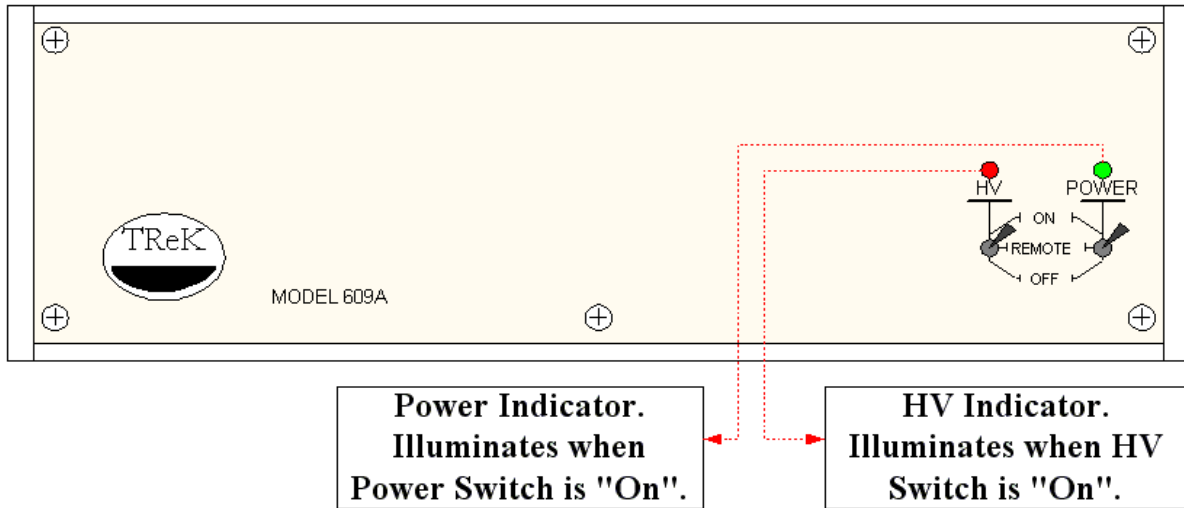

Figure 6 - 10,000-Volt HVA Front Panel.
2. **High-Voltage Amplifier (HVA) Connections** - The amplifier will be connected directly to the HVI. Connections may be either on the front or rear panel of the amplifier (depending on the amplifier), but all are made to the HVI rear panel. **Figures 6** and **7** show front and rear panels and label the connections for a Trek 10 kV amplifier. **Table 2** describes these connections.